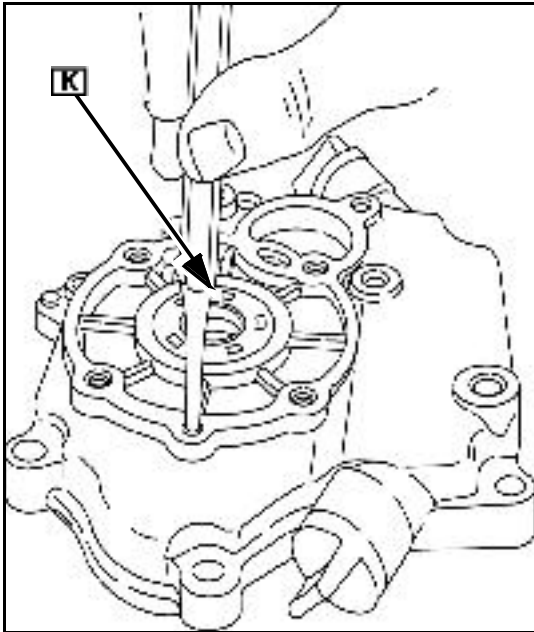

Fig. 17
1. Press governor gear shaft (K) out of cylinder cover from outside, Fig. 17.